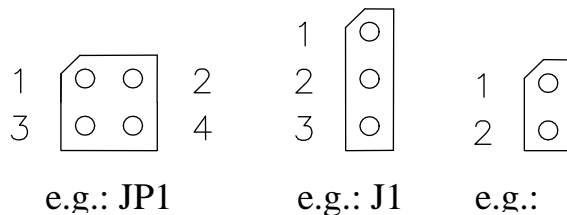

Figure 16: Typical jumper numbering scheme
The phyCARD Carrier Board comes pre-configured with 2 removable jumpers (JP) and 3 solder jumpers (J). The jumpers allow the user flexibility of configuring a limited number of features for development constraint purposes. *Table 31* below lists the 5 jumpers, their default positions, and their functions in each position. *Figure 16* depicts the jumper pad numbering scheme for reference when altering jumper settings on the development board. Note that pin 1 is always marked by a square footprint in the jumper location diagrams that follow.